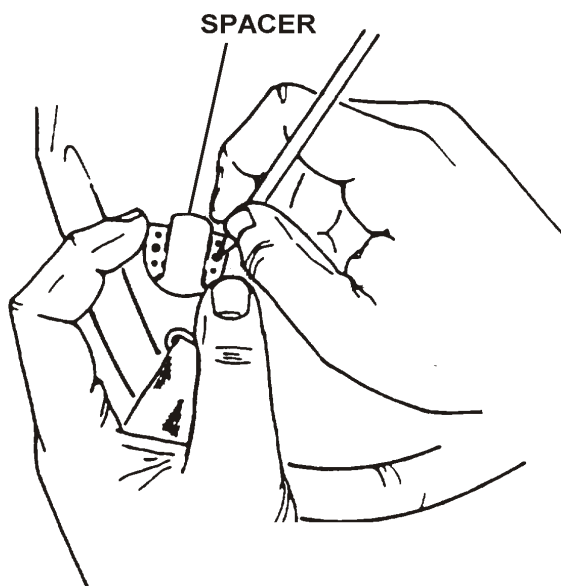

Figure 2-9. Marking Screw Holes
5. While holding only the bayonet receiver spacers against the helmet at the marked positions, use a lead pencil as shown in Figure 2-9 to mark the screw holes onto the helmet shell.